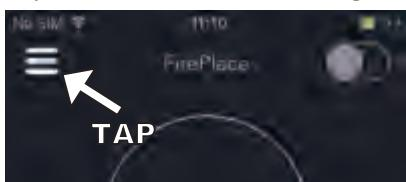

Fig. 1 Tap the side menu button
3. Tap the side menu button (Fig. 1)